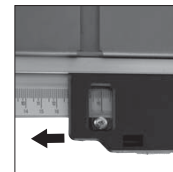

Fig. 13
- Loosen slightly the seven coach bolts (R) which hold the fence rail to the machine.
- Gently move the fence rail to the right or left until the '0' position on the scale coincides with the datum line in the magnifier. (Fig. 13)
- Check and when satisfied that calibration has been achieved, tighten the seven fence rail nuts (S) securely.